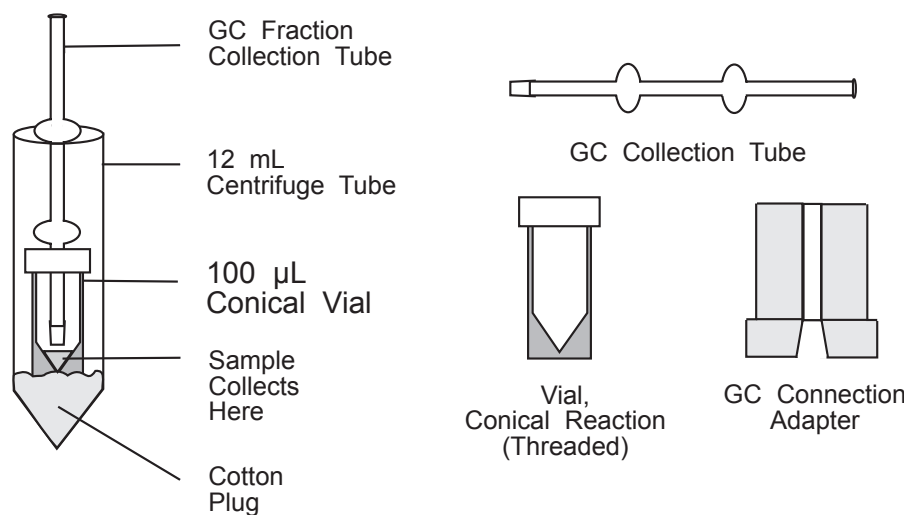

Figure 5-2
5. The collection tube should then be connected to a tared 100 μ L conical vial and placed in a centrifuge tube (cotton padding around the collection tube and bottom of the vial is recommended - refer to Figure 5-2). Centrifuge the assembly. The collected GC fraction has now been collected. Detach the vial from the collection tube, cap the vial and weight it.